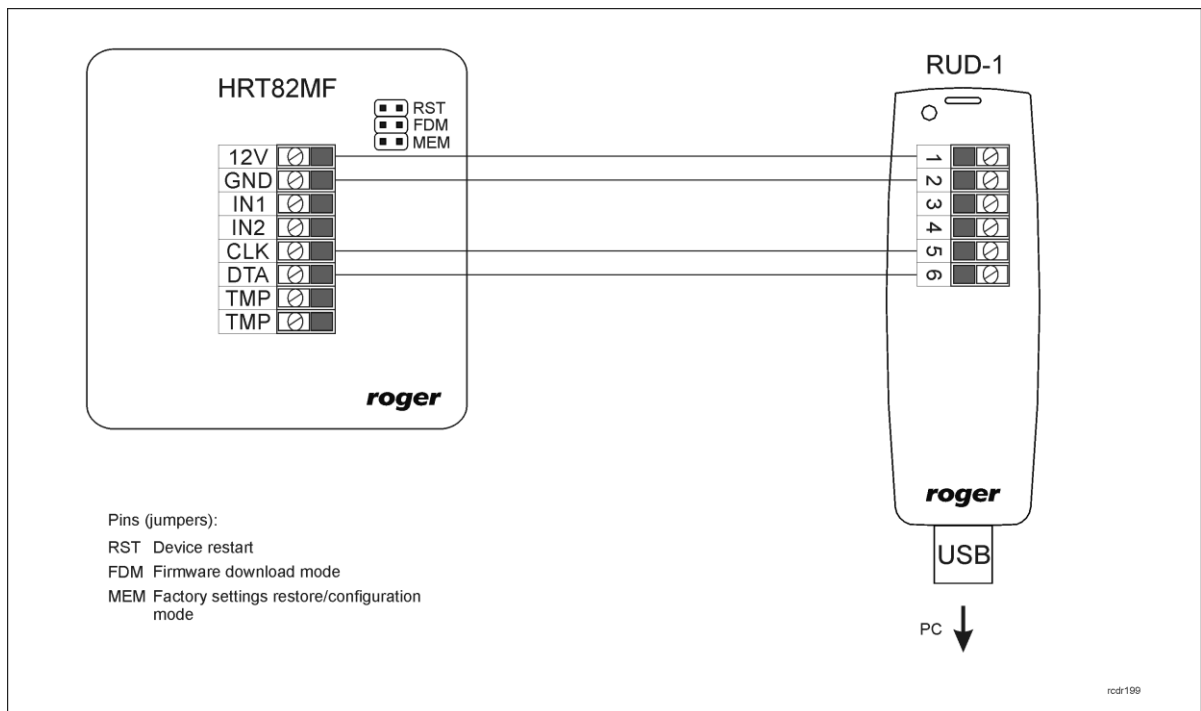

Fig. 7 HRT82MF and RUD-1 connection
1. Connect device to RUD-1 communication interface according to fig. 7